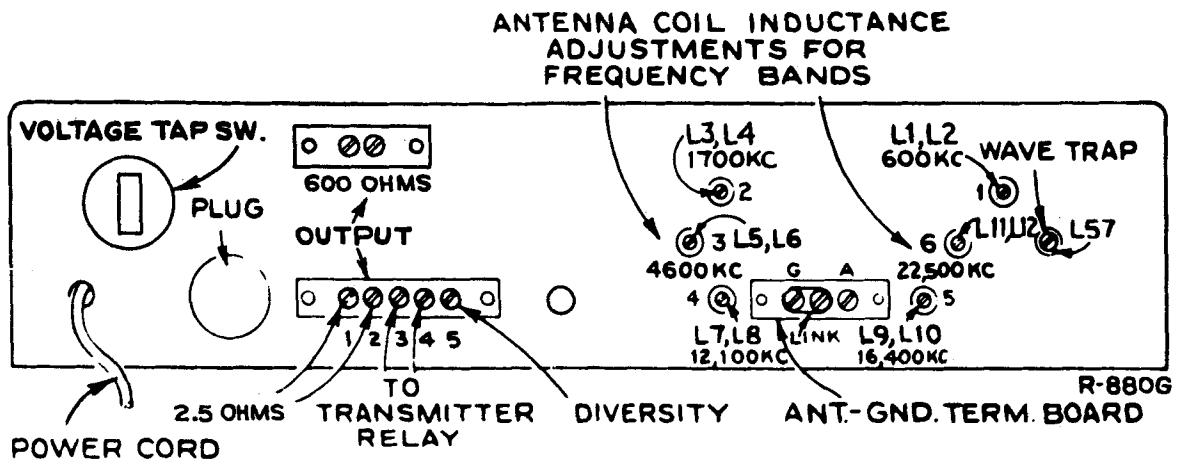

Figure 2—Diagram of Rear of Chassis
The antenna terminal board is provided with three terminals (see Figures 2 and 6), two of which may be joined together with a link. When a single wire antenna is used, the link should be closed and the antenna connected to "A." If a ground is used, it should be connected to "G." If a transmission line or balanced input is used, the link should be opened and the line connected to terminal "A" and the center terminal.
Power Pack — The power pack mounted on the receiver chassis consists of a power transformer, rectifier tube RCA-5Y3GT, and filter. A tap switch is provided on the rear apron for changing the power transformer voltage tap. (See Figures 2 and 6.) The voltage for which the switch is set may be read directly on the switch. The instrument may also be operated from 6V. "A" and 250 to 300 V. "B" batteries, or Vibrator Power Supply Unit MI-8319.
Speaker—Terminals for connection of a loudspeaker are indicated in Figures 2 and 6. The output transformer is designed to match a speaker having 2.5 ohms impedance.
2. Transmit position which gives energized tube filaments, open plate circuits, and shorted terminals for transmitter relay on the speaker terminal board on the back of the chassis. Connect relay to these two terminals for transmitter operation. See Figure 2.
Diversity Reception — Connect together the terminals marked "diversity," Figure 2, on two or three of these receivers, and equip each receiver with a separate antenna. The "diversity" terminal is connected inside the receiver to the AVC circuits. Tune as explained.